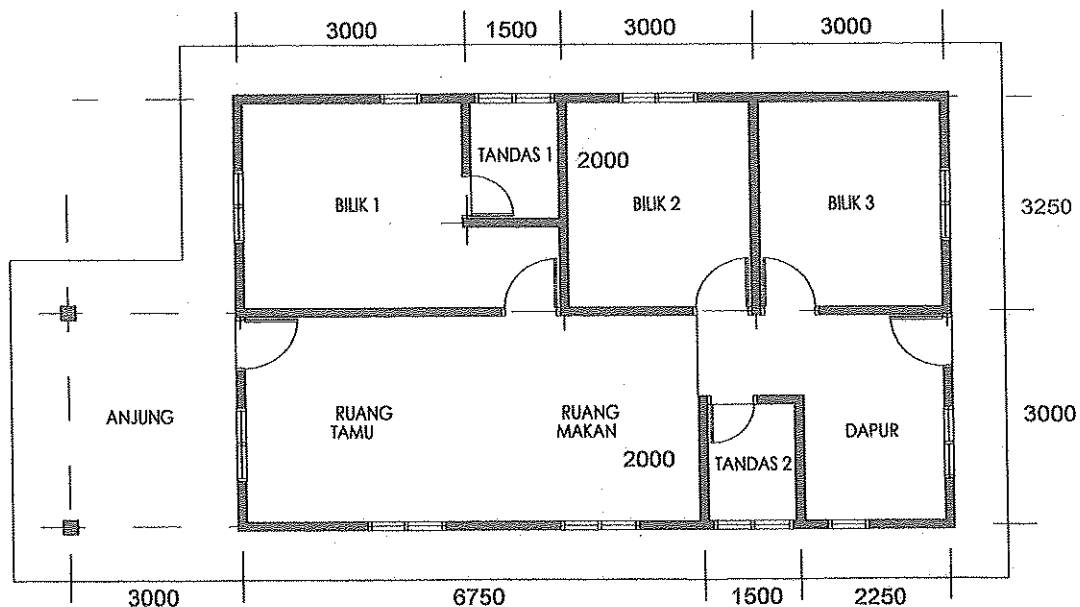

Figure B1 (c) /Rajah B1 (c): Floor Plan /Pelan lantai
- (c) Based on Figure B1 (c), calculate the cost of the building using the Floor Area Method. Given the price rate is RM525.00/m² and wall thickness is 115mm. All the dimensions are measured center line to center line.